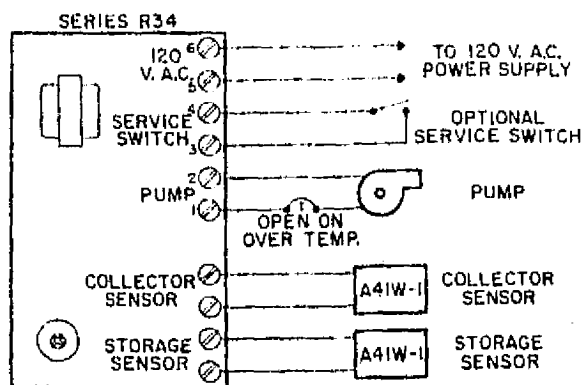

Fig. 4 — Typical wiring diagram.
2. Check for proper voltage (120 V. A.C.) supply to terminals 5 and 6, see Figure 4.